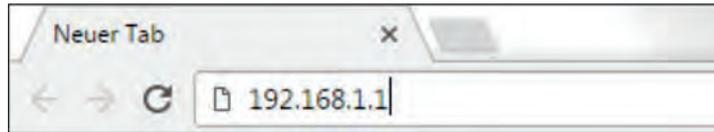
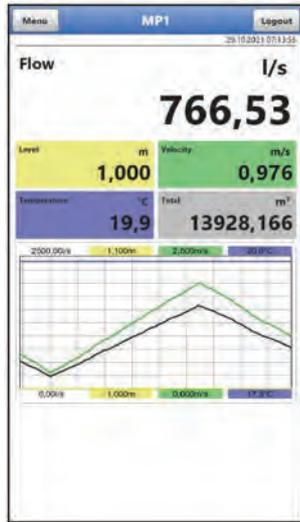

Fig. 31-23 Address field
Fig. 31-24 Indication of NFM display in the browser
6. Enter the IP address "192.168.1.1" in the address field (Fig. 31-23) and open. After successful connection the display of the NivuFlow Mobile (Fig. 31-24) is shown.